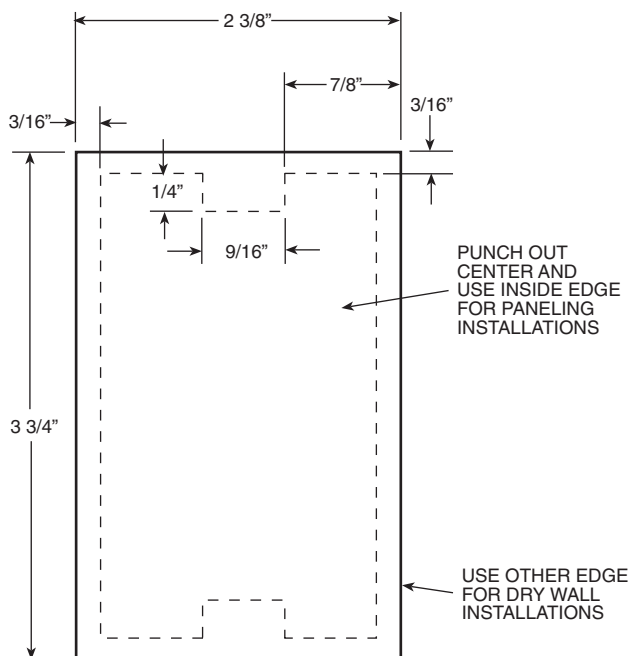

Fig. 6 — Cutout Template
2. Using cutout template provided, cut hole into wall. See Fig. 6.